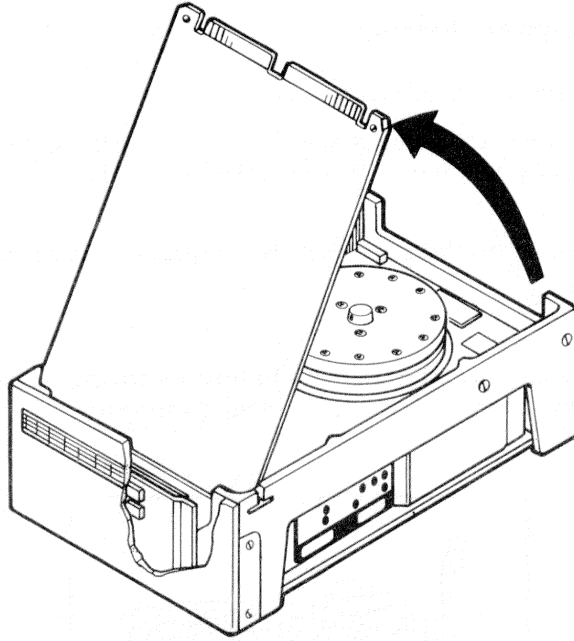

Figure 6-13 RD53 Device Electronics Board Removal
1. Remove the four phillips screws retaining the slide plate and ground clip. Set the plate aside. (Figure 6-13)